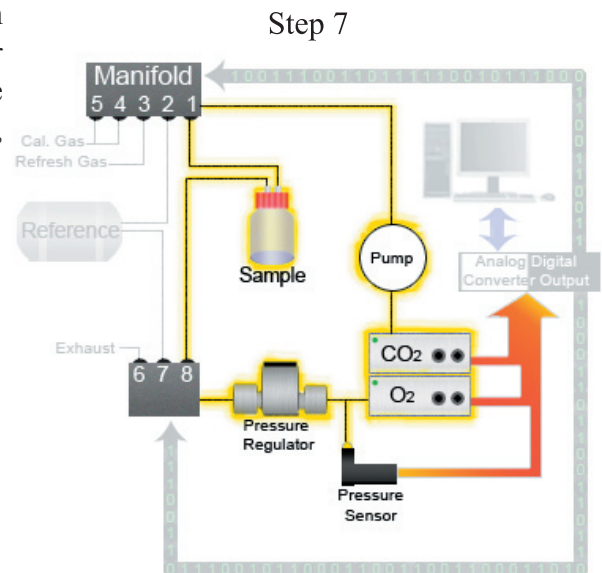

Figure 12
Step 7: We can finally measure our sample! The System circulates the gases from the head space of the Sample Chamber through the sensors then re-circulates them back into the Sample Chamber for a factory set time period of three minutes, and takes a reading from the sensors (Figure 12).